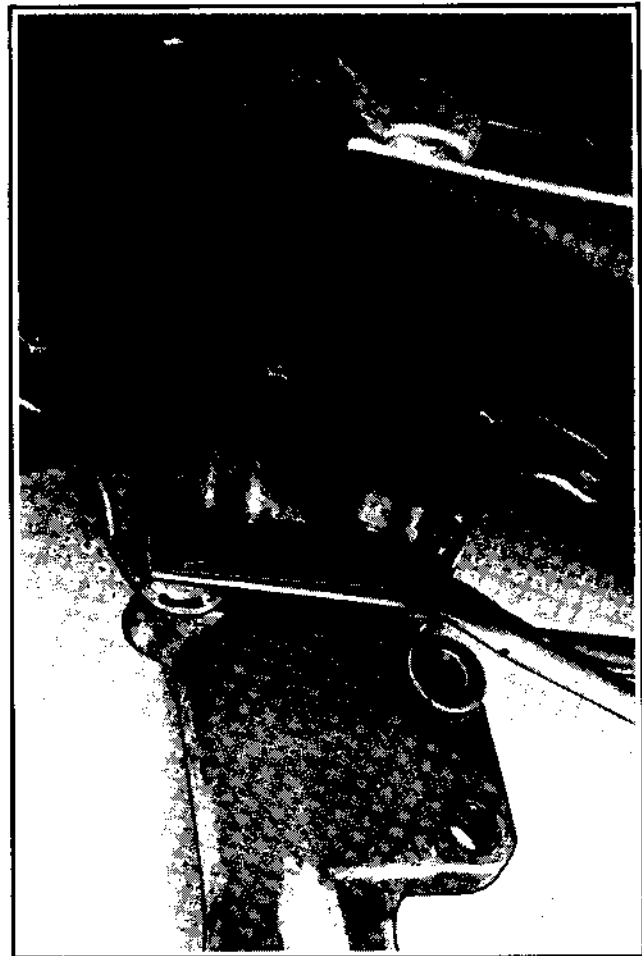

FIGURE 4. PROPER PARTS STACKUP.
17. Take proper yellow colored bolt, insert through lock plate, bumper (if applicable) and fender brace into fork sliders. (See Figure 4.)